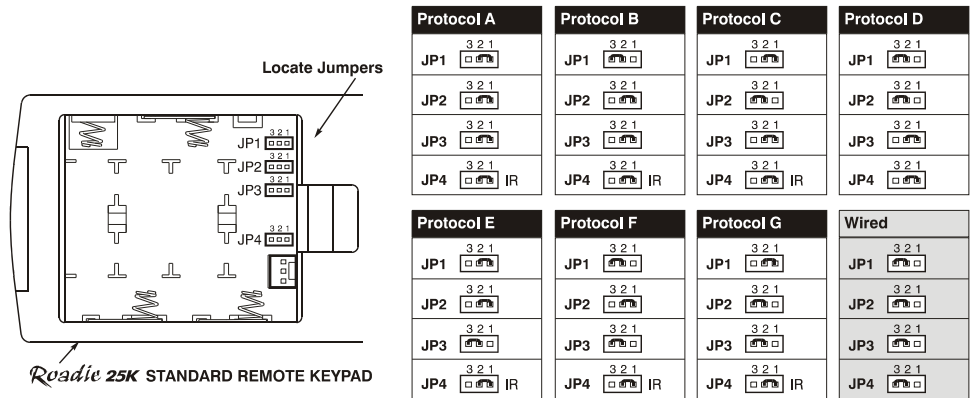

Figure 2.44. Setting the Jumpers in the “Brick” Rental Staging Remote
Set the jumpers to match one of the protocols shown in Figure 2.44. Use tweezers or needle-nose pliers to remove and replace each jumper as necessary.
If desired, you can convert this IR remote keypad into a wired remote keypad and vice versa. Set the jumpers as shown in Figure 2.44, and add or delete the cable (supplied) and batteries as required.
5. Set keypad protocol to “wired” jumper setting (refer back to Figure 2.44). Ensure jumper #4 is set between pins 2 and 3 as shown in the last example (shaded).
5. Set jumpers according to the desired IR protocol (refer back to Figure 2.44). Ensure jumper #4 is set between pins 1 and 2 as shown for all remote IR protocols.